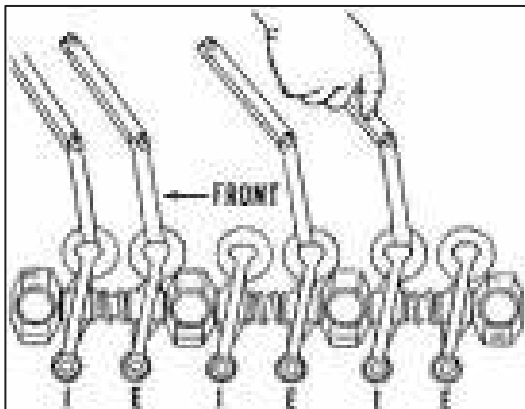

Fig. C2.59
1. Bring first piston to TDC in compression stroke. This can be achieved by inserting a locating pin in the second hole of the flywheel. At this position, adjust tappets 1, 2, 4, and 5 as shown in the figure C2.59.